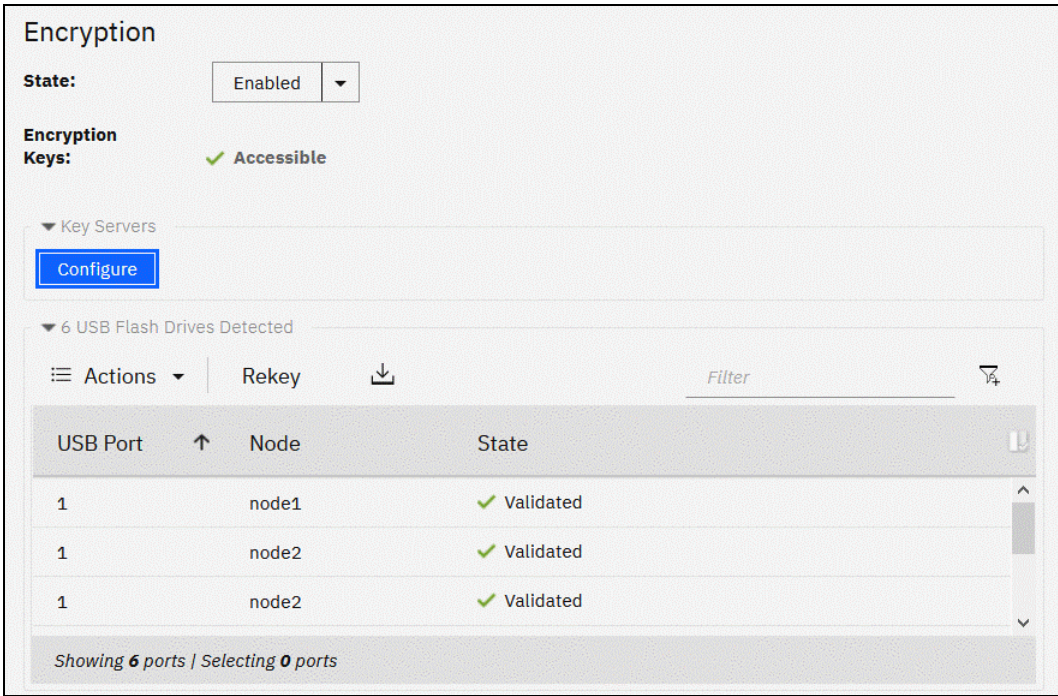

Figure 12-56 IBM SAN Volume Controller encryption configured with USB Flash Drives
1. Migrate from key server encryption to USB flash drives encryption, as described in 12.7.2, “Changing from encryption key server to USB flash drive provider” on page 872. After this step, only USB flash drives encryption are configured, as shown in Figure 12-56.